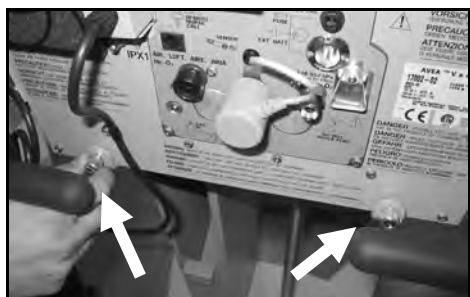
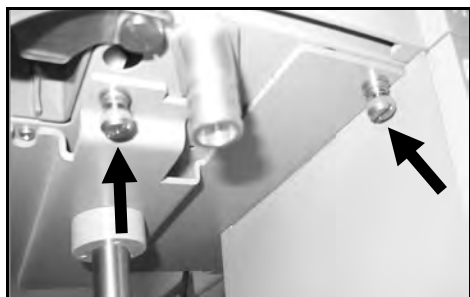

Figure 3.35
Figure 3.36
7. With assistance, lift the Avea from the box and carefully position the unit on the top plate assembly of the cart. Secure the unit using the 4 thumbscrews (Figure 3.35 and Figure 3.36).